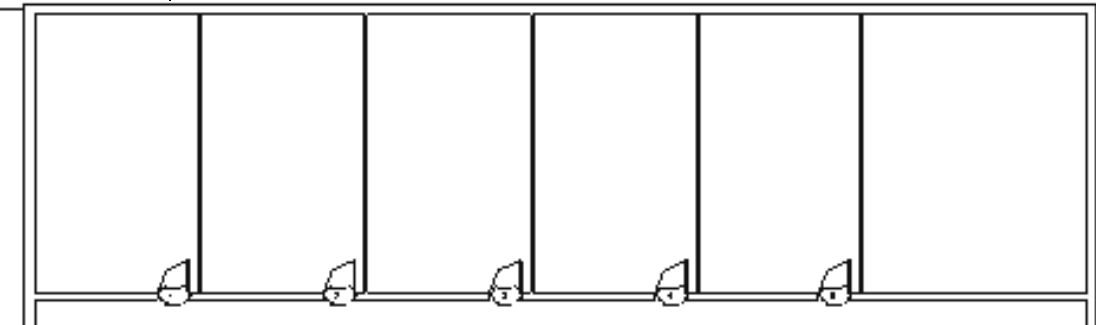

Figure 2-46
- 8. The new elements are still selected and you can continue to copy them. Use similar start and end points for the additional copies, or type **16** (16'-0") and press <Enter> to set the distance between each copy. The final layout is shown in Figure 2-46.